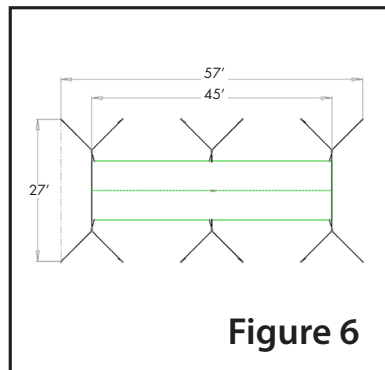

Figure 6
1. Unfold the net lengthwise inside the frame (**Fig. 6 & 6A**).